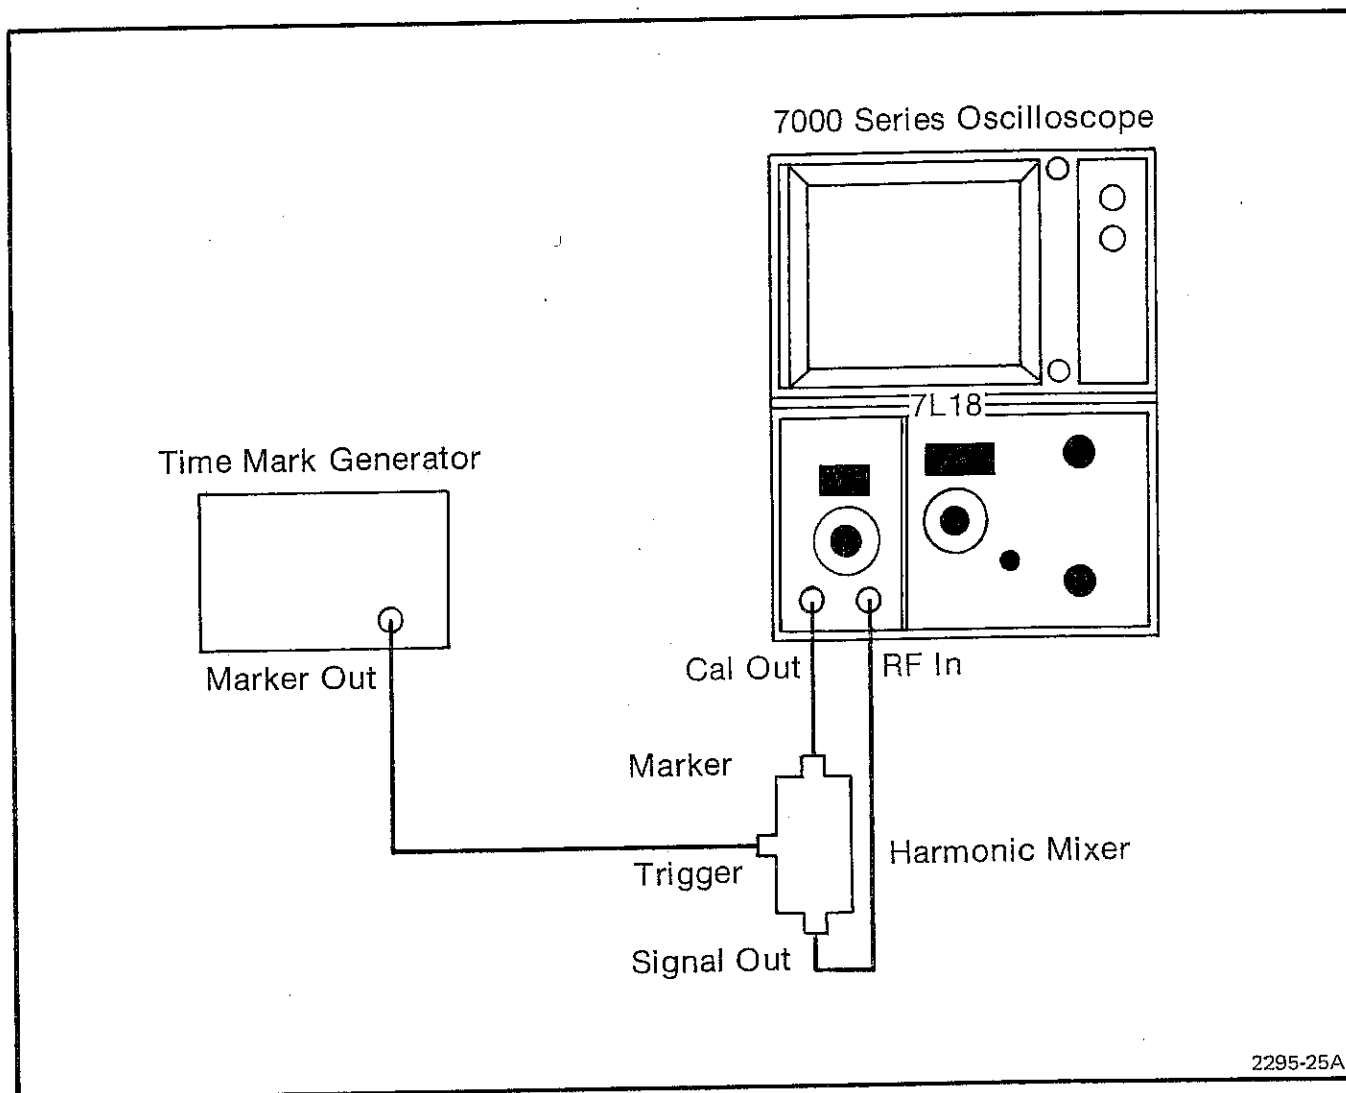

Fig. 4-17. Freq. Span/Div Test Setup.
a. Connect the test setup as shown in Fig. 4-17. Set the 7L18 front-panel controls as follows: